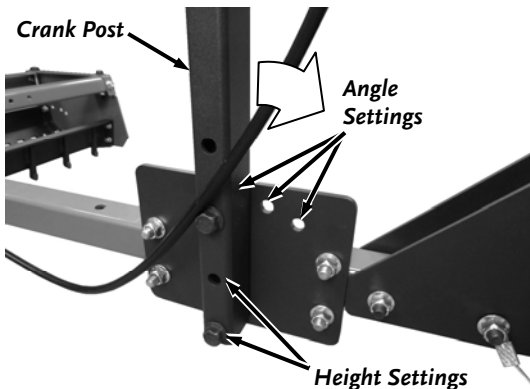

Figure 32
1. Remove the upper hardware that secures the Crank Post to the Backing Plate and loosen the lower hardware using two 9/16" Wrenches (**Figure 32**).
1. Remove the hardware that secures the Crank Post to the Backing Plate and using two 9/16" Wrenches (**Figure 32**).